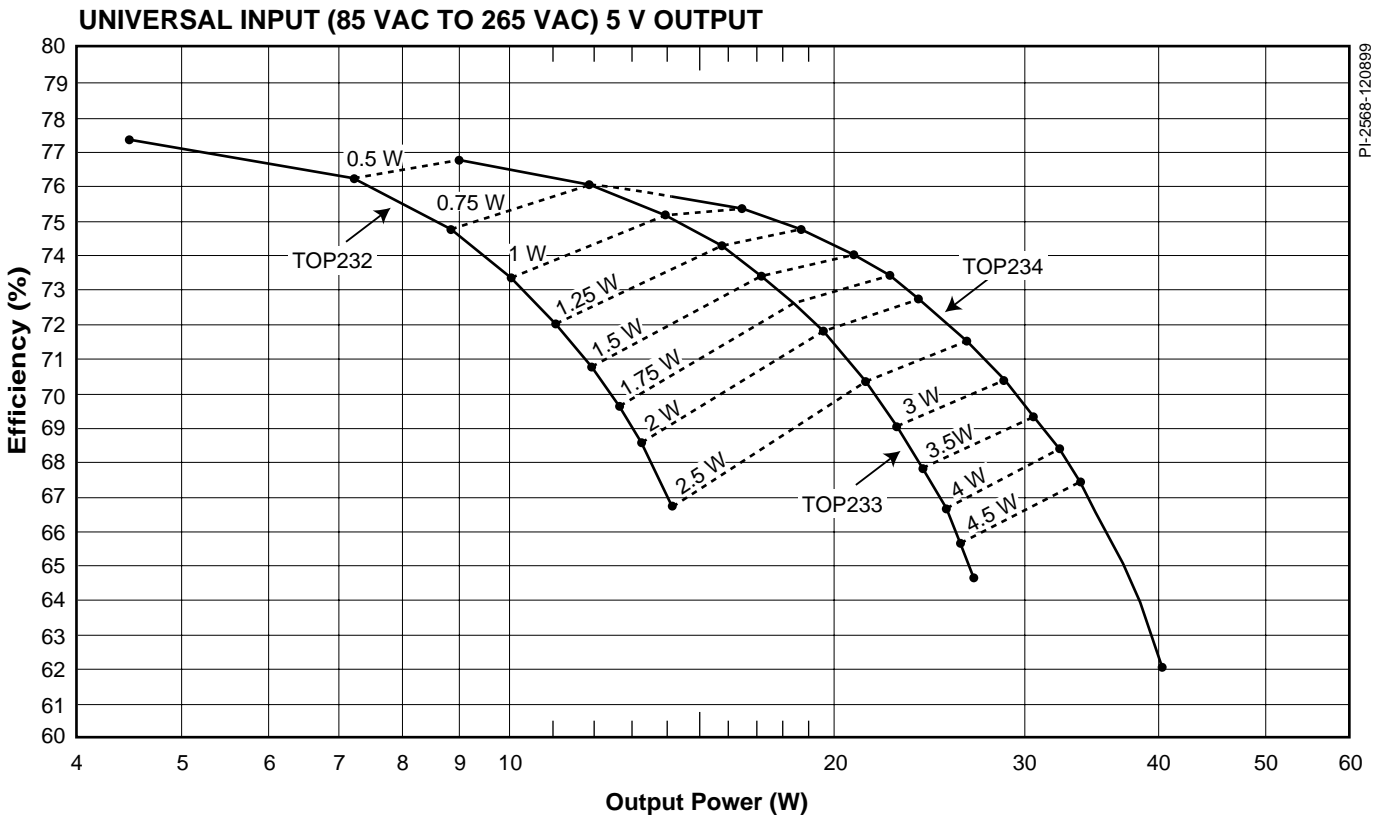

Figure 2. Efficiency vs. Output Power with Contours of Constant TOPSwitch-FX Power Loss for Universal Input and 5 V Output.
Consider a 5 V, 30 W power supply with Universal input range. From the curves in Figure 2, we can see that the TOP234 can deliver 30 W (X-axis) with an estimated Efficiency (Y-axis) of about 69.5%. The projected TOPSwitch-FX dissipation is approximately 3.3 W. The thermal environment and the available heatsinking must be evaluated to confirm the choice of device in this application.
- For low voltage outputs, the secondary currents and their associated losses can become significant. Close attention must be paid to the Equivalent Series Resistance (ESR) of the output capacitor in particular. The values in Tables 1 and 2 for the 5 V Quick Selection Curves (Figures 2 and 4) use a capacitor with very low ESR.